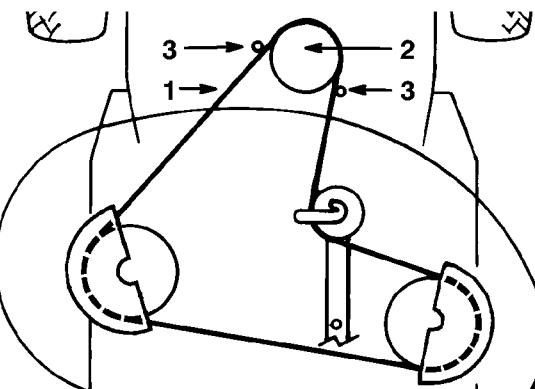

Figure 43
- Remove the mower belt from the lower engine pulley (Fig. 43). If you are careful, you can flex the belt guide(s) just far enough away from the pulley to remove the belt. If it is too difficult to remove the belt, loosen the bolts and nuts securing the belt guides.
4. Install mower belt onto the lower engine pulley (Fig. 43). If you are careful, you can flex the belt guide(s) just far enough away from the pulley to install the belt. If it is too difficult to install the belt, loosen the bolts and nuts securing the belt guides.